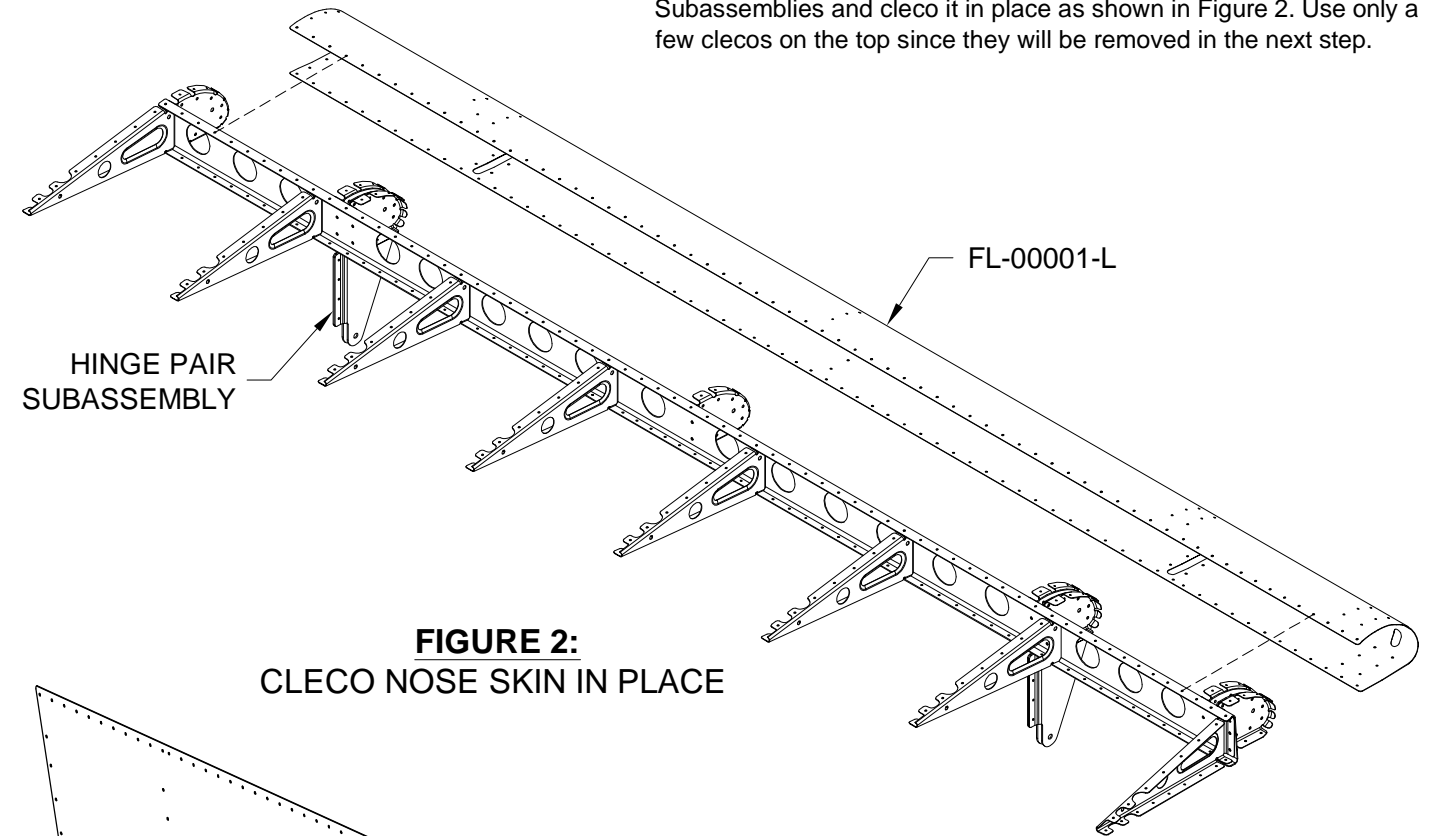

FIGURE 2:
Step 2: Slide the FL-00001-L Nose Skin over the two Hinge Pair Subassemblies and cleco it in place as shown in Figure 2. Use only a few clecos on the top since they will be removed in the next step.